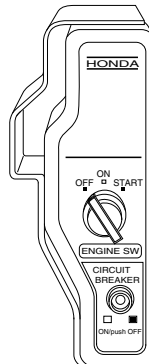

Figure 29 - Engine Switch In OFF Position
3. Turn engine switch to the OFF position (see Figure 29).